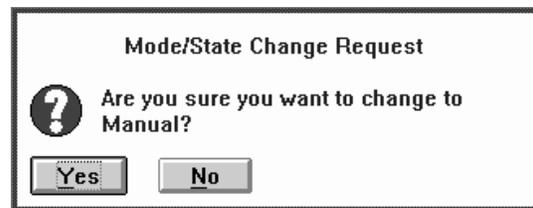

Figure 149. Mode/State Change Request Window
4. Select the **Yes** push button in the Mode/State Change Request window (Figure 149) to start the change to Manual mode.